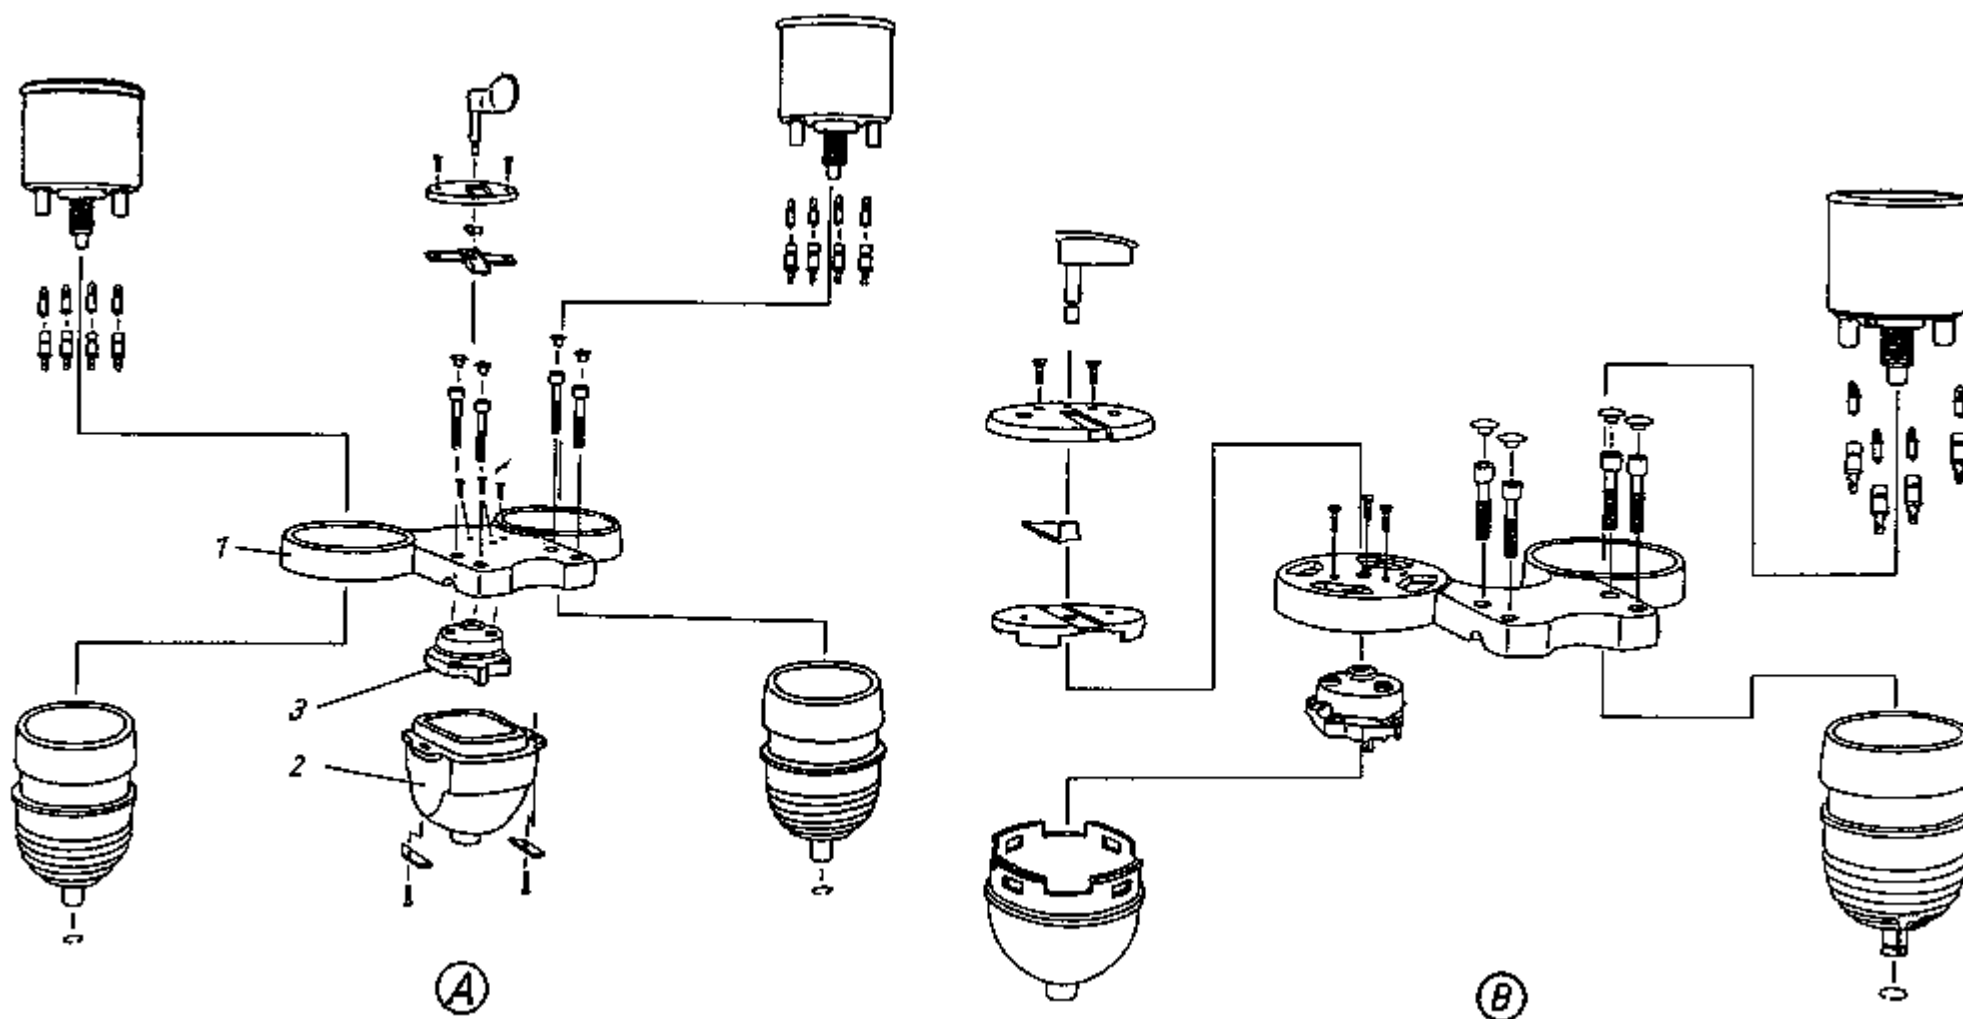

Fig. 162. Exploded view of the instrument holders
Demounting and mounting the ignition-light switch is shown in Fig. 162. In the deluxe model (A in Fig. 162), the instrument (handle-bar) holder (1) must be unscrewed from the upper clamping head. Then, the protective cap (2) and the ignition-light switch (3) are accessible.